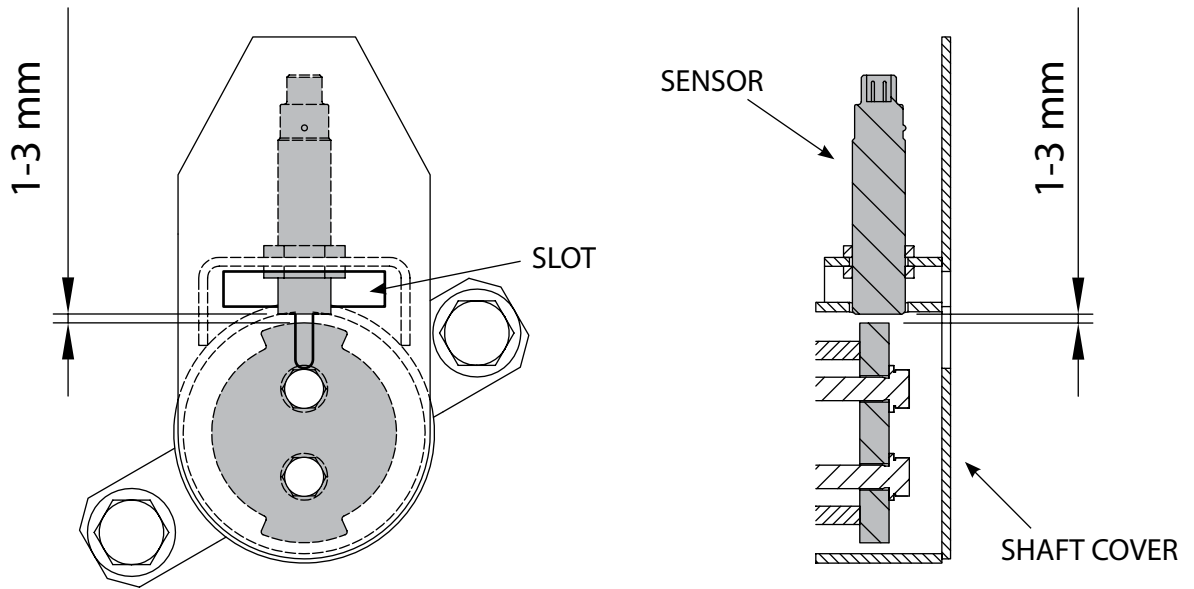

Fig. 22. Adjustment of No Stress
2. Insert the NO STRESS sensor into the hole (20 mm). The black tip of the sensor must be approx. 1-3 mm apart from the pin of the end plate. Turn the cutting disk to make the pin visible in the slot of the shaft guard. The distance between the sensor and the pin can be checked through the slot (see fig. 22). If the sensor distance is correct, tighten its fastening nuts.